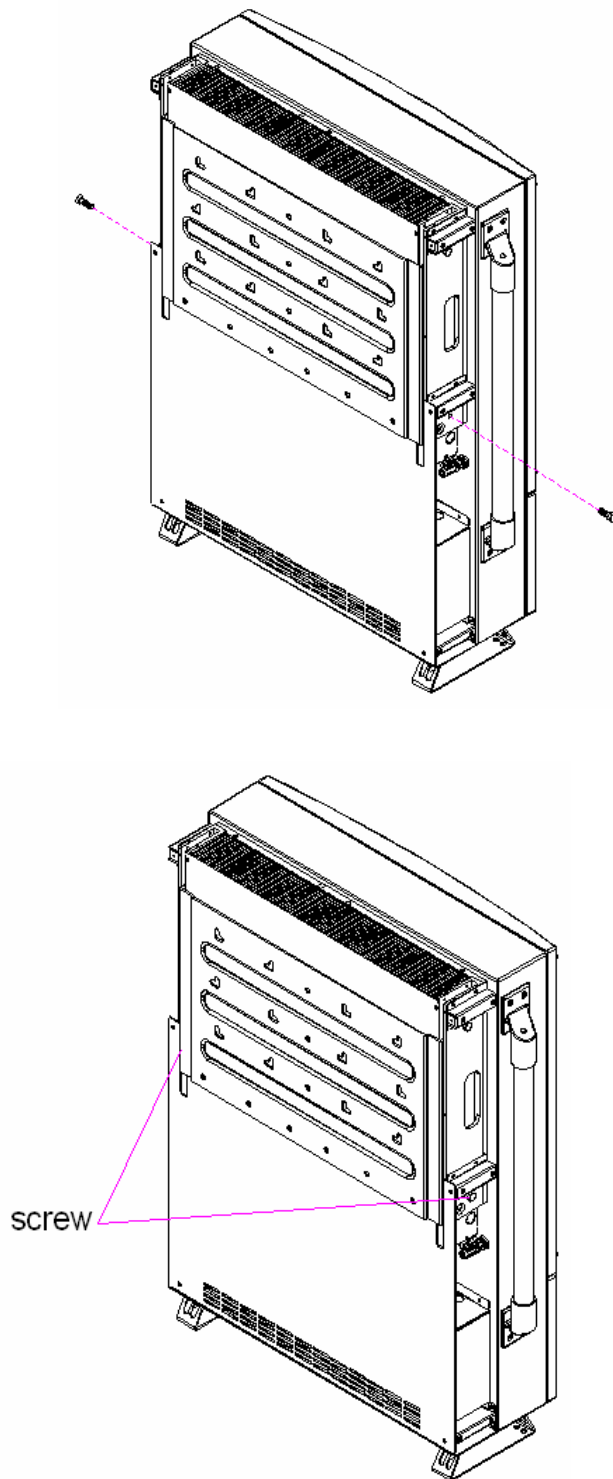

Fig 2.2.4 Hook the Inverter on the mounting bracket and then fasten the screw
3. Once the mounting bracket is fastened to the wall, the inverter can be mounted and fastened on the bracket. Hook the inverter on the mounting bracket flanges and slip down carefully to lock it in place. And then fasten the inverter to the mounting bracket as shown in Fig 2.2.4.